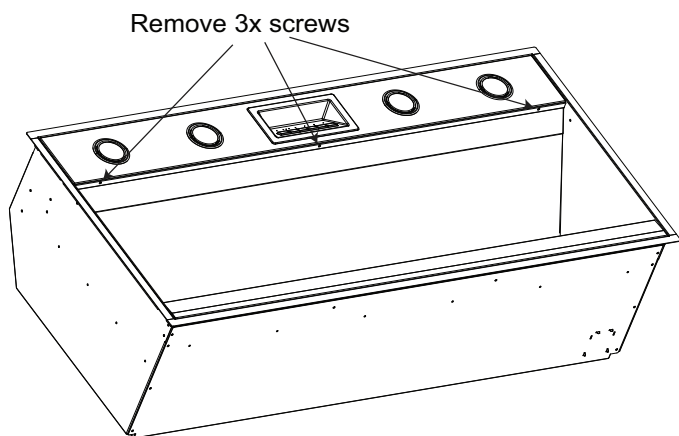
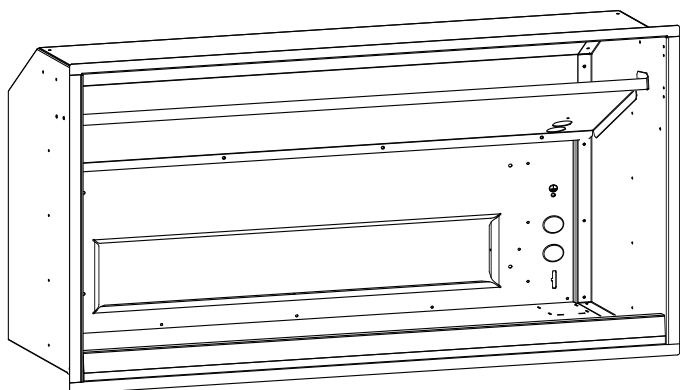

Figure 12: Remove stainless steel panel
Figure 13: Remove core partition
- Remove core partition (*Figure 13*).
6. Reinstall hood components from *Figure 12* and *Figure 13*.